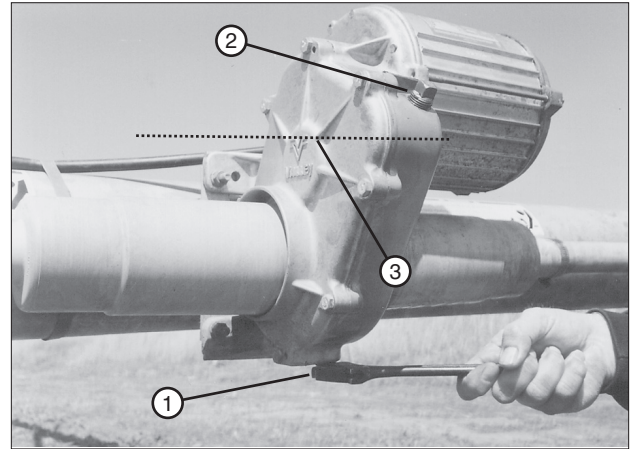

Figure 93-1 1. Drain Plug
1. Remove the drain plug and the fill plug. Drain the oil and install the drain plug. See figure 93-1.